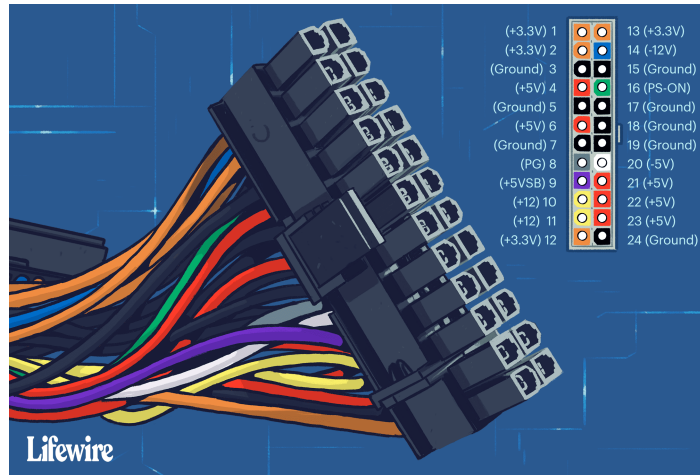

Figure 12: ATX power supply pinout. (ATX)
In this section we will explore the idea of DC-DC conversion in some more detail. DC-DC conversion is an important operation in electronic circuits. The power supply in a desktop personal computer (PC) converts an AC input to a DC voltage value that is then used to power different components on the PC. Circuits also use multiple DC voltage levels. The pinout of an ATX power supply used in a PC is shown below in Fig. 12. Note that the pinouts indicate several DC voltage values. The power supply we designed can be viewed as a DC-DC converter (after the rectification step). The final regulator circuit designed in this lab used a reference voltage of  $V_{\text{ref}} = 4.7 \text{ V}$ .